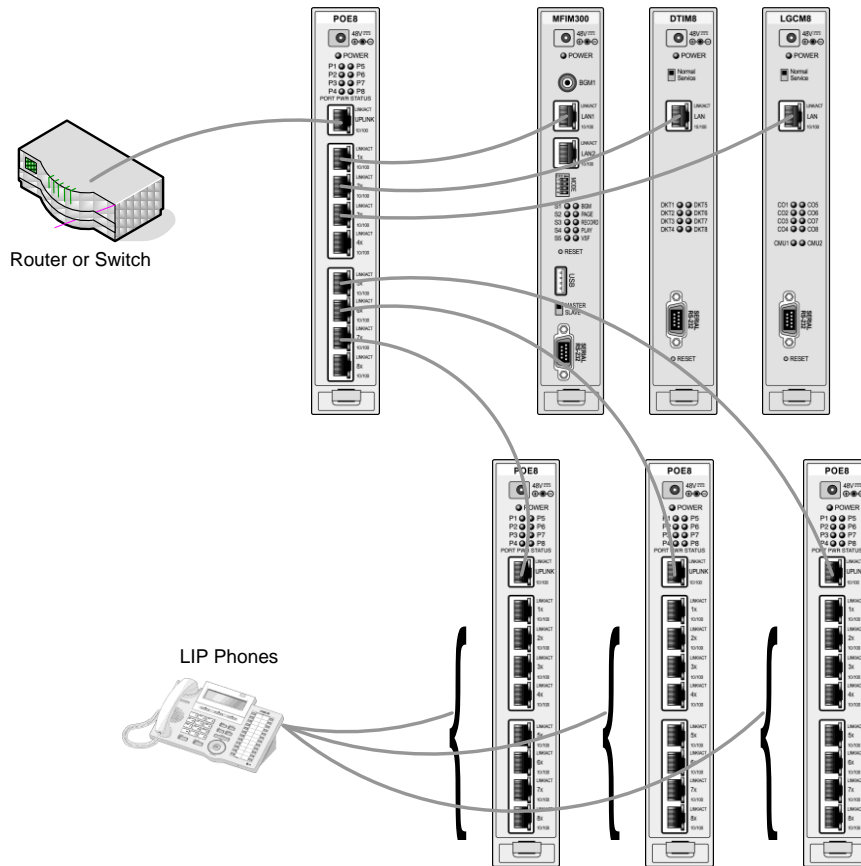

Figure 4.5.1.7-1 iPECS LAN Wiring
Due to the advantages of the shared environment, support for remote LAN power, and external VoIP calling, the POE8, which is a standard Ethernet switch, should be employed. The recommended structure, called here “hierarchical” wiring, employs all “straight” LAN cables (MDI to MDIX) and is shown in Figure 4.5.1.7-1. Additional POE8 Modules are connected using the UPLINK port to the switched ports of the primary POE8. A sufficient number of POE8 modules are connected to provide the total number of ports required. Each Module, LIP Phone, and LIP-7000 series Console requires a single port and the MFIM will require two (2) ports. Thus, an 8 CO Line, 24 station system would require a total of 28 ports (MFIM = 2 ports, two LGCM4 = 2 ports, and 24 LIP Phones = 24 ports), and would be structured as in the Figure 4.5.1.7-1.